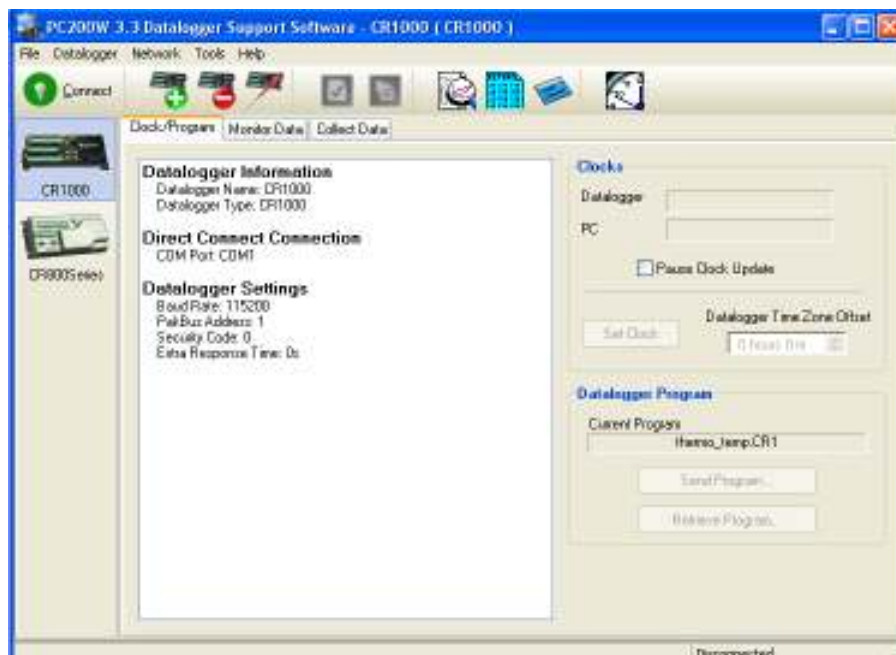

Figure 7: Main screen of PC200W software.
5. **Open the PC200W software:** The data logger should now be on and waiting for instructions on what to do. Launch the PC200W Campbell Software. Your screen will look like Figure 7 below.